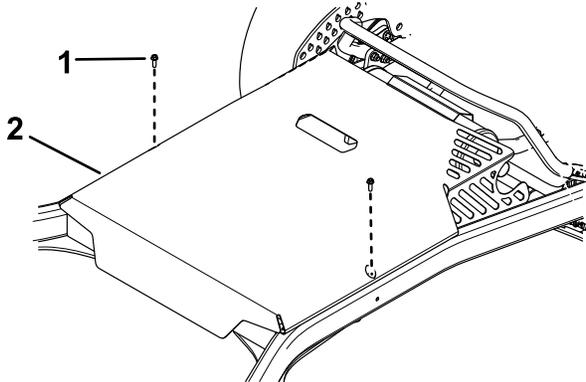

Figure 27
3. Remove the 2 bolts securing the deck cover and remove the deck cover (Figure 27).